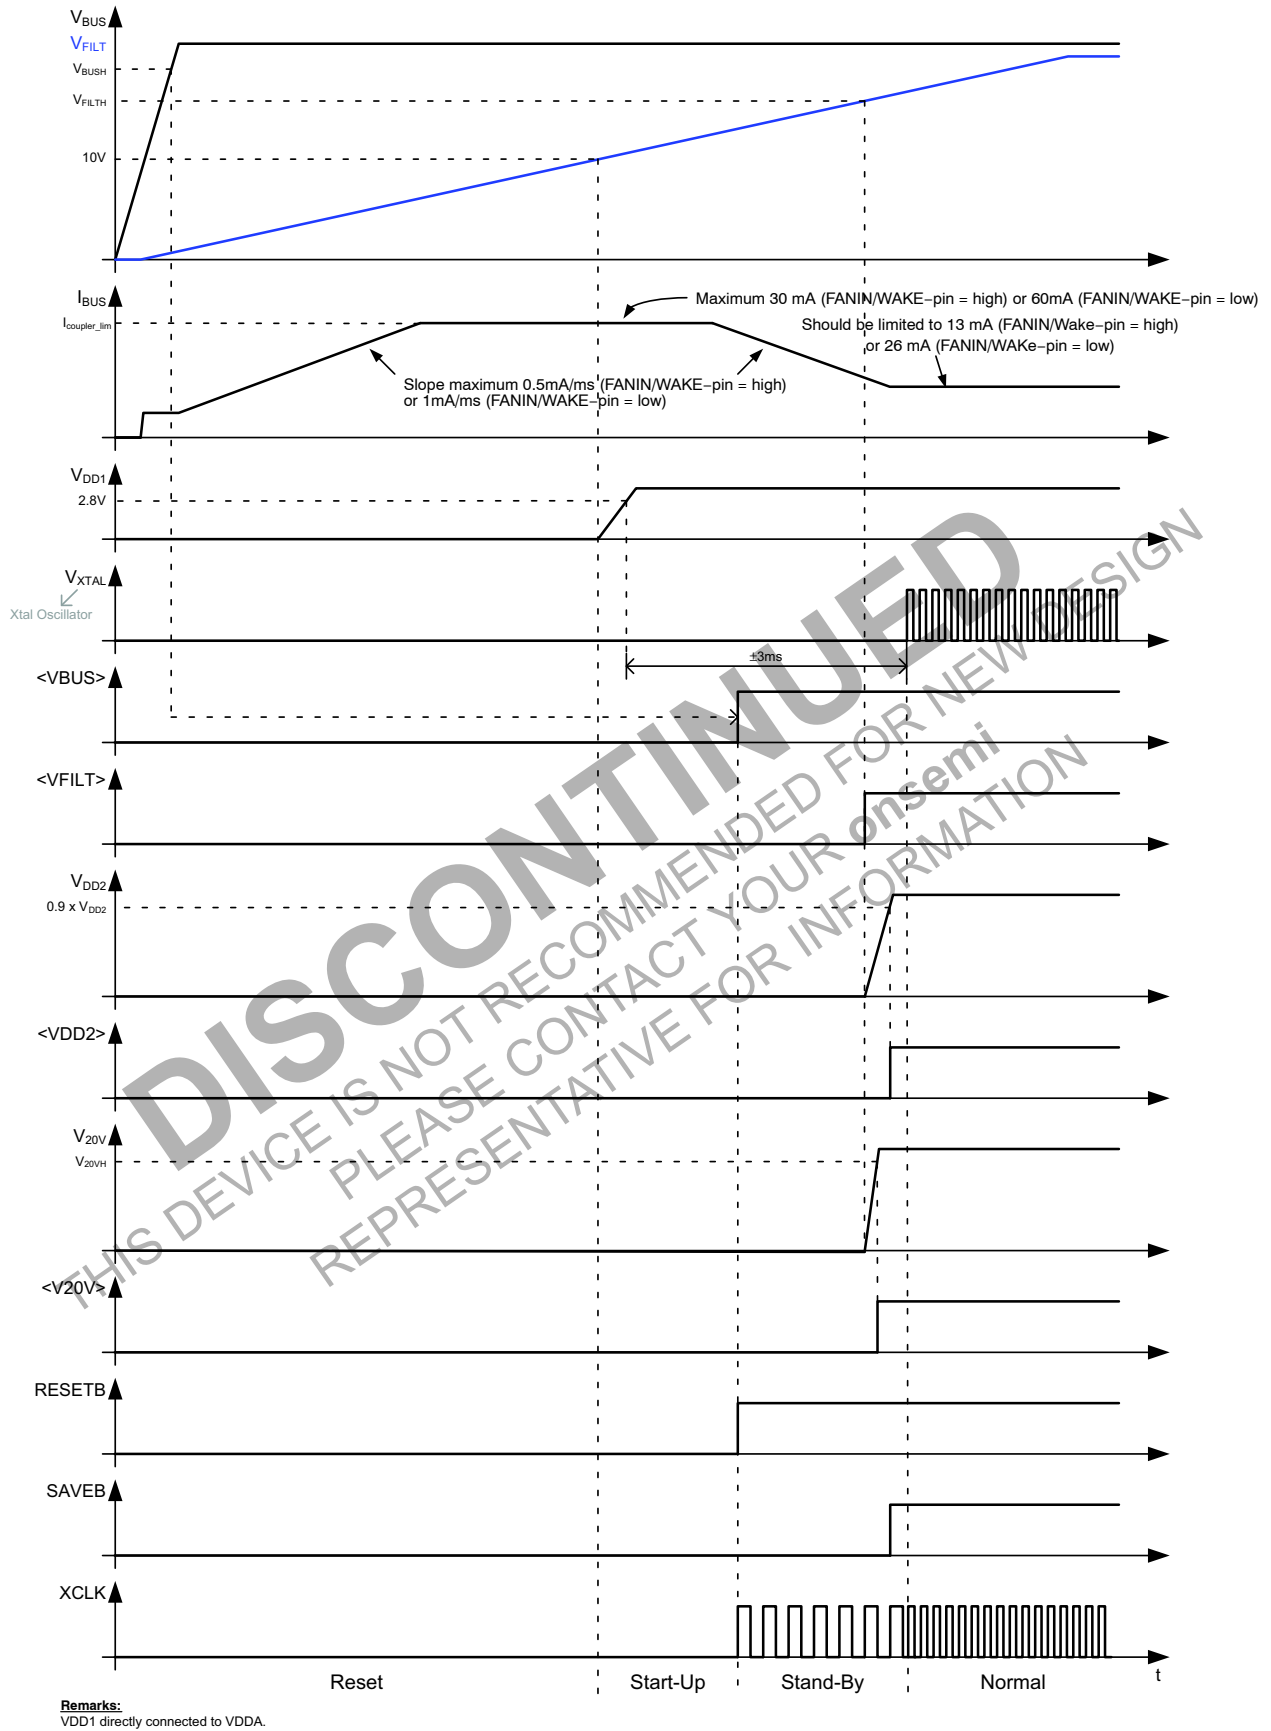

Figure 21. Start-Up Behavior
After power-up, a 4 MHz (Note 3) clock signal will be present on the XCLK-pin during Stand-By. When Normal State is entered, a 8 or 16 MHz clock signal will be present on the XCLK-pin. See also Figure 21.
Figure 21 gives a detailed view on the start-up behavior of NCN5120. After applying the bus voltage, the filter capacitor starts to charge. During this Reset State, the current drawn from the bus is limited to  $I_{coupler}$  (for details see the KNX Standards). Once the voltage on the filter capacitor reaches 10 V (typ.), the fixed DC-DC converter (powering VDDA) will be enabled and the device enters the Start-Up State. When  $V_{DD1}$  gets above 2.8 V (typ.), the OTP memory is read out to trim some analog parameters (OTP memory is not accessible by the user). When done, the Stand-By State is entered and the RESETB-pin is made high. If at this moment  $V_{BUS}$  is above  $V_{BUSH}$ , the VBUS-bit will be set (<VBUS>, see System Status Service, p34). After approx. 2 ms the Xtal oscillator will start. When  $V_{FILT}$  is above  $V_{FILT_H}$  DC2 and V20V will be started. When the Xtal oscillator has started, no Thermal Warning (TW) or Thermal Shutdown (TSD) was detected and the VBUS-, VFILT-, VDD2- and V20V-bits are set, the Normal State will be entered and SAVEB-pin will go high.